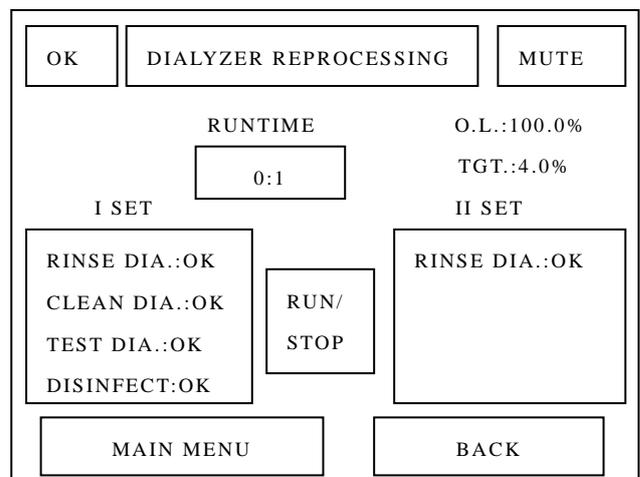

Figure 9-6
(5) User can select only one type or both types to get in automatic procedure work, the interface displays as shown in Figure 9-6. User can press “RUN/STOP” to stop work and press the button again, the procedure will work continue. (Note: Press “MAIN MENU” or “BACK” button in the interface. The automatic procedure will stop and run from the beginning in the next time.)